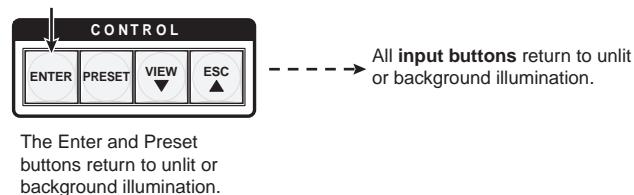

Figure 3-46 — Press the Enter button
4. Press and release the Enter button (figure 3-46). The current configuration is now stored in the selected memory location.